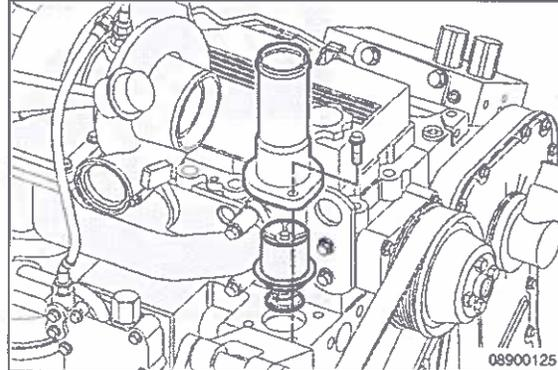

Fig. 2
5. Remove the water outlet connection capscrews and water outlet connection. (Fig. 2)
6. Remove the thermostat and discard. (Fig. 2)
6. Reinstall passenger compartment heater hose covers. If gap is present at hose wheelhousings *transition* covers, install bulb seal part no. 10020905 on end and foam tape part no. 00830059 on flange of transition cover to close out gaps per Fig 2.